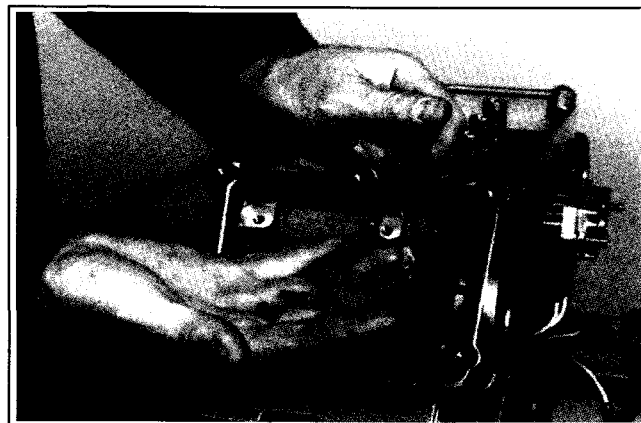

**Figure 9-31. Hold Governor Together While Removing Camshaft.**
5. Hold governor halves together with one hand and slide camshaft out. See Figure 9-31.